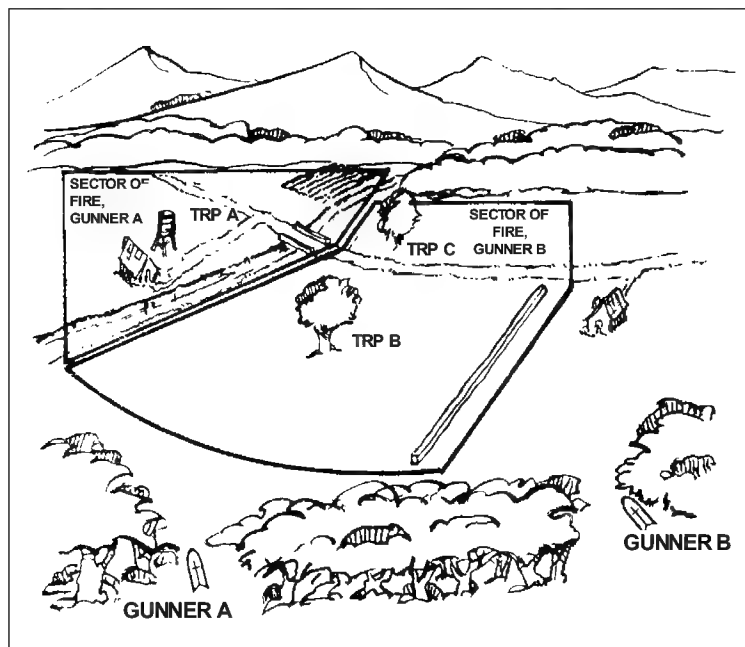

Figure 4-30. Sector of fire.
(1) **Sector of Fire.** A sector of fire refers to an area limited by boundaries and assigned to a unit or weapon to cover by fire (Figure 4-30, page 4-30). The gunner or unit assigned a sector of fire may fire only within that sector. Leaders make sure sectors